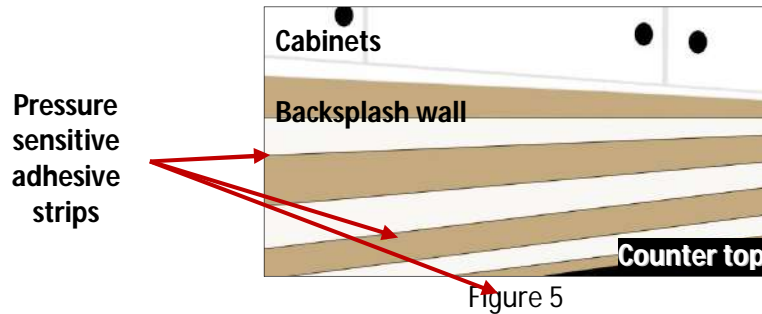

Figure 5
1. If you haven't done so already, shut off any electrical outlet or switches that protrude from the backsplash wall at the breaker and disassemble them. Either paint the wall white or apply our white reflective backer laminate by using a few strips of our pressure sensitive adhesive to the wall at the top, middle and bottom (see figure 5).